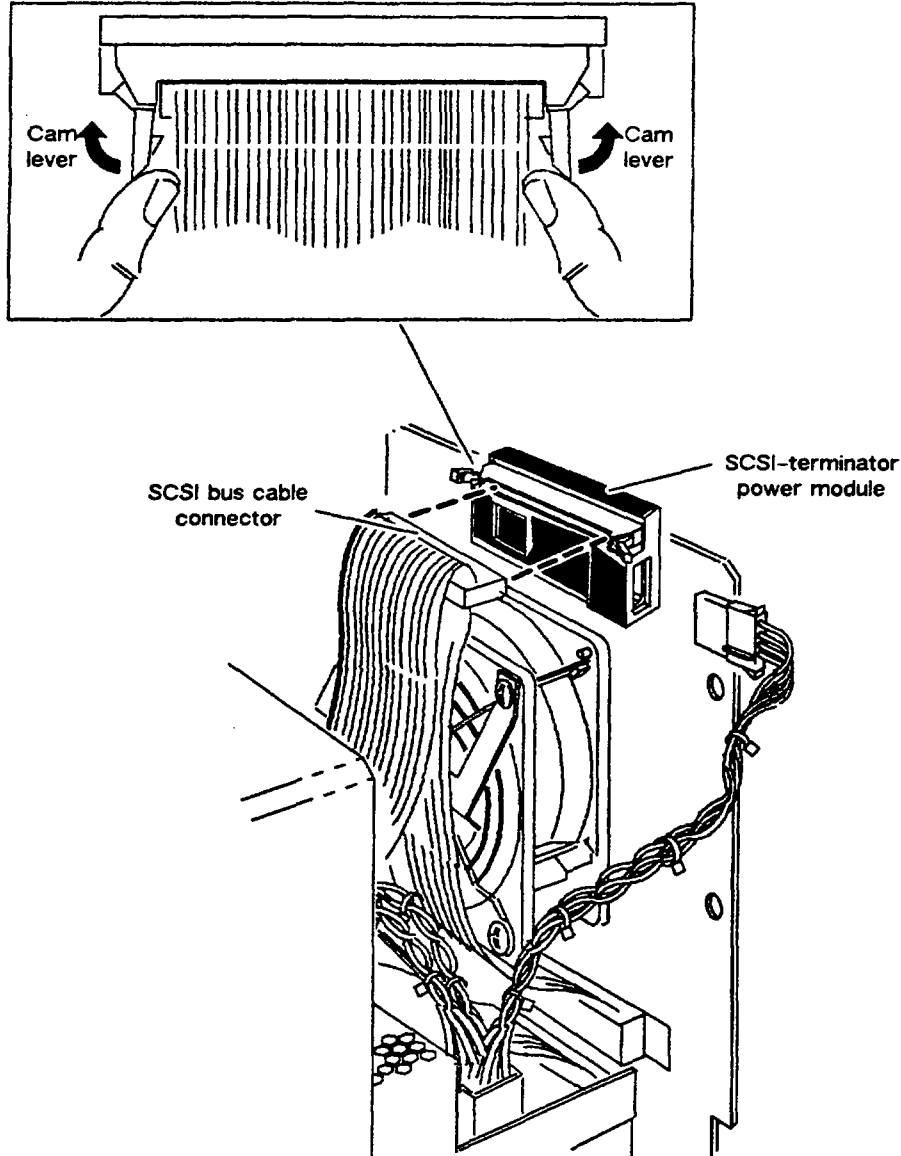

Figure 4-22 Removing the SCSI Bus Cable Connector from the SCSI-Terminator Power Module
3. Disconnect the SCSI bus cable from the SCSI-terminator power module by firmly pressing both cam levers, as shown in Figure 4-22. Once the cam levers force the cable from the connector, you can remove the power module.
6. Firmly press the topmost connector on the SCSI bus cable into the connector of the power module. As you press the connector into the power module, you'll feel the cam levers lock the connector in place. Refer to Figure 4-22 for the location of the topmost SCSI bus cable connector.